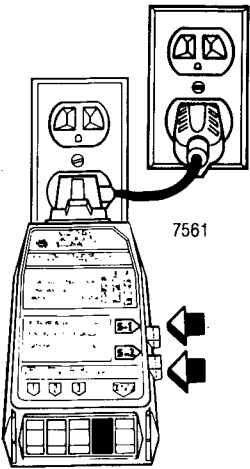

Figure 22
Step 7. Press and hold the red (S-2) button (Fig. 22).